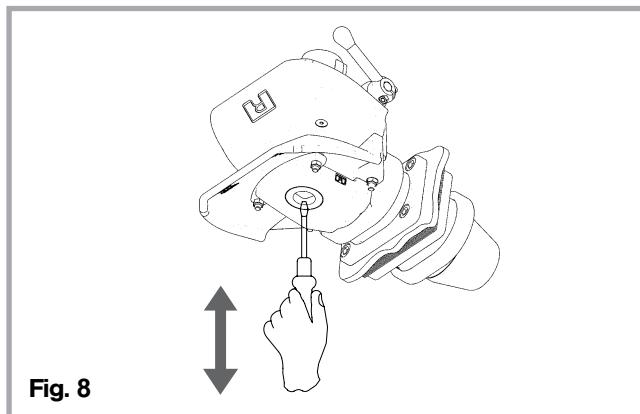

Fig. 8
- Maximum vertical play on coupling pin (see Fig. 8) is